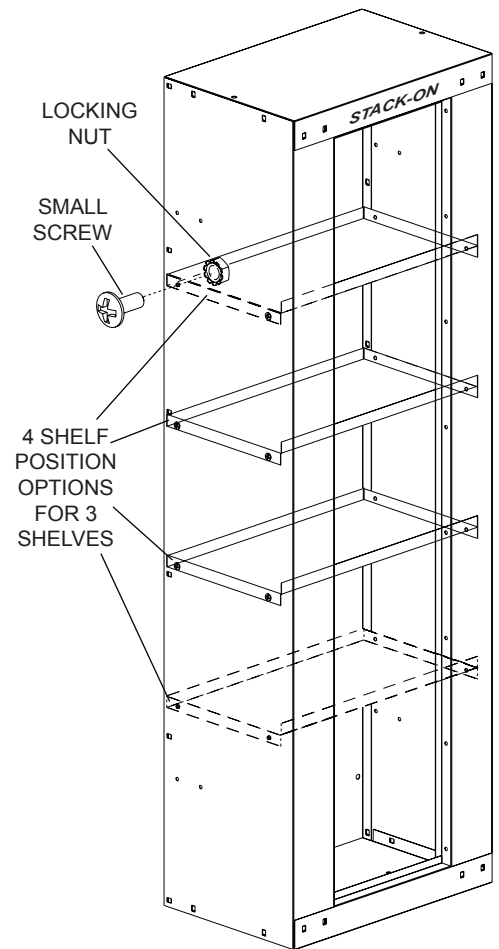

Figure 4
There are 4 sets of holes providing 4 different shelf height options for your (3) Shelves. Assemble each Shelf using (4) Small Screws and (4) Locking Nuts (See Figure 4).